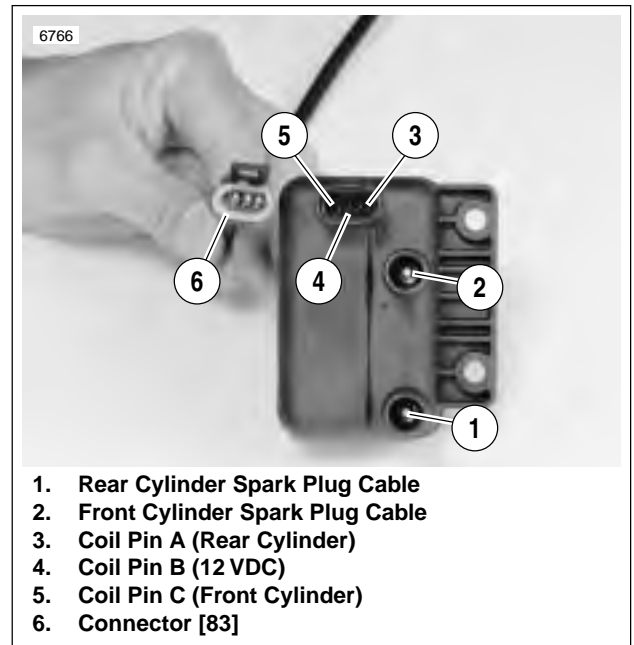

Figure 4-53. Ignition Coil
See Figure 4-53. The coil receives power from the ignition relay at coil pin B (4) at the same time that the fuel pump and injectors are activated. The fuel pump is active for the first two seconds after the ignition switch is turned ON and then shuts off until RPM is detected from the cam position sensors, at which time it is reactivated.